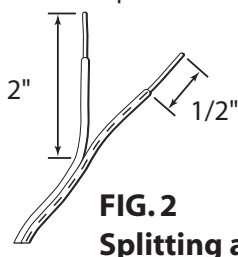

FIG. 2
- Split and strip ends of wire if required (**Fig. 2**).
- Split and strip ends of wire (**Fig. 2**)